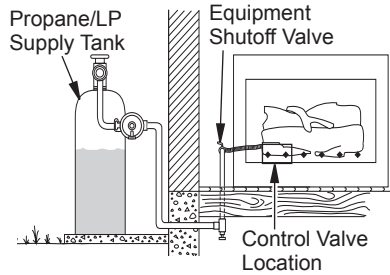

Figure 16 - Checking Gas Joints (Propane/LP Gas Only)
3. Check all joints from gas meter to equipment shutoff valve for natural gas or propane/LP supply to equipment shutoff valve for propane/LP (see Figure 16 or 17). Apply noncorrosive leak detection fluid to all joints. Bubbles forming show a leak.
4. Check all joints from equipment shutoff valve to gas control (see Figures 16 and 17). Apply noncorrosive leak detection fluid to all joints. Bubbles forming show a leak.